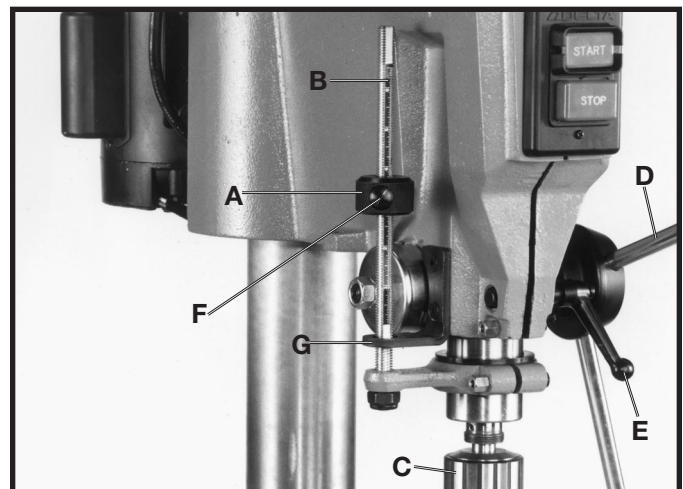

Fig. 30
When a number of holes are to be drilled to exactly the same depth, the stop nut (A) Fig. 30, on the threaded stop rod (B) is used as follows:
1. Lower the chuck (C) Fig. 30, and drill bit to the depth you wish the drill bit to be by rotating the pinion shaft handles (D). Then lock the quill in position by tightening quill locking lever (E). **NOTE:** Quill locking lever (E) is spring-loaded and can be repositioned by pulling out on the handle and repositioning the hub of the handle on the nut located underneath the hub.
2. Depress spring-loaded button (F) Fig. 30, and rapidly move stop nut (A) until bottom of nut (A) contacts stop (G). While holding the pinion shaft handle (D) Fig. 30, loosen the quill locking lever (E), allow the chuck (C) and the quill, to return to the up position by gradually allowing the pinion shaft handles to rotate to the up position.
3. Drill a test hole to check the adjustment and readjust if necessary by rotating stop nut (A) Fig. 30, for fine adjustment. It is not necessary to depress button (F) while rotating stop nut (A) for fine adjustment.